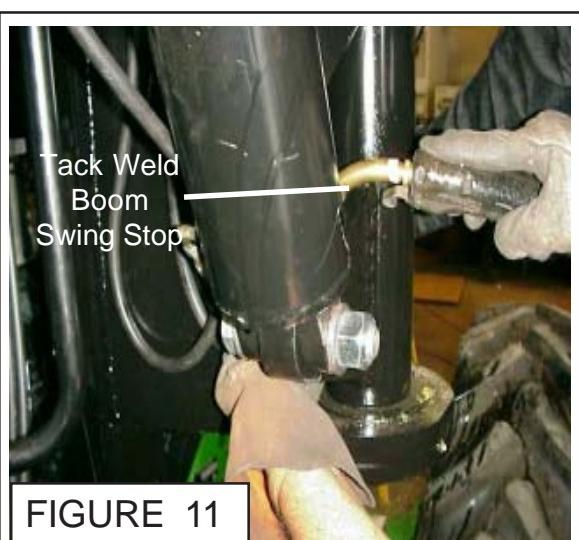

FIGURE 11
2. **Tack Weld Boom Swing Stop Lug.** Tack Weld the Boom Swing Stop Lug to the King Post Mount (DO Not Weld to the King Post). (See Figure 11) Tack Weld the Lug secure enough that the Boom can be swung out to the side, this gives you more room to weld on the Boom Swing Stop Lug completely (See Figure 12)